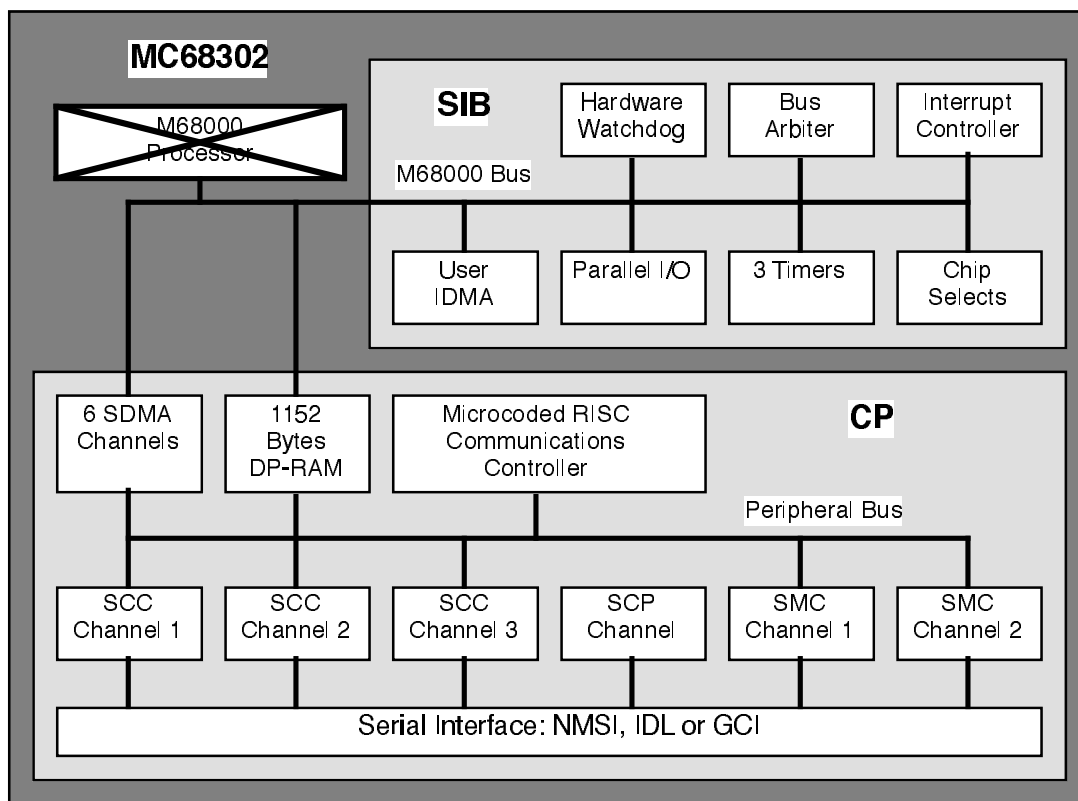

Figure 1 MC68302 Block Diagram
The MC68302 Integrated Multiprotocol Processor is normally controlled by an on chip M68000 CPU. However it can be configured to operate as a peripheral to an external processor such as the Power PC 60X. All of the MC68302 peripherals contained in the System Integration Block (SIB) and the Communications Processor (CP) are available to the external host in this mode, as illustrated in figure 1. The dual-port RAM offers 576 bytes of additional system RAM for general use, such as data buffer storage, and 576 bytes of parameter RAM used to configure and control the CP and SIB.